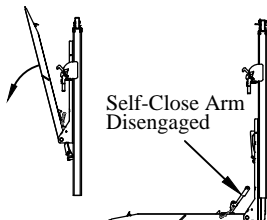

Figure 5: Step 7.
- Step 7. To lower the platform, stand off to the side, well clear of the platform and push down on the control toggle switch. Allow the platform self-close arm to unfold the platform to the horizontal position as it lowers. Check to make sure the self-close arm has returned to the disengaged position (Figure 5).